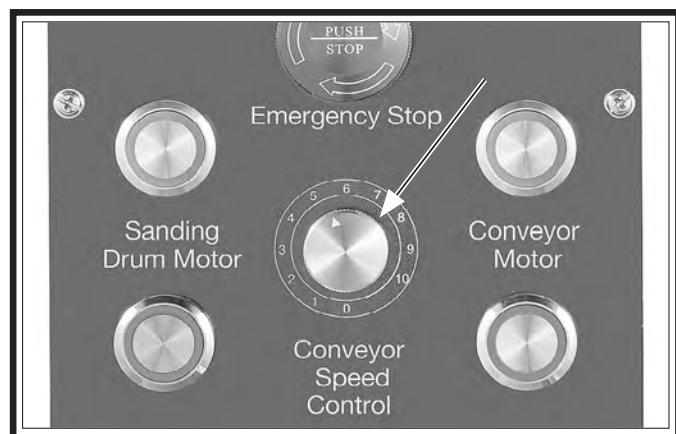

Figure 16. Location of Conveyor Speed Control dial.
The Conveyor Speed Control dial (see **Figure 16**) allows you to set the conveyor speed from 0–10 (0–20 FPM). The correct speed to use depends on the type of stock you are using (hardwood vs. softwood) and the stage of finish you are at with that workpiece.
1. Turn Conveyor Speed Control dial (see **Figure 16**) to "0," and then turn conveyor motor **ON**.